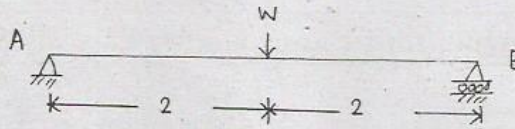

Fig Q. 11(a)
11. (a) Find the slopes at A and B of the simply supported beam loaded as given in Fig Q. 11(a).